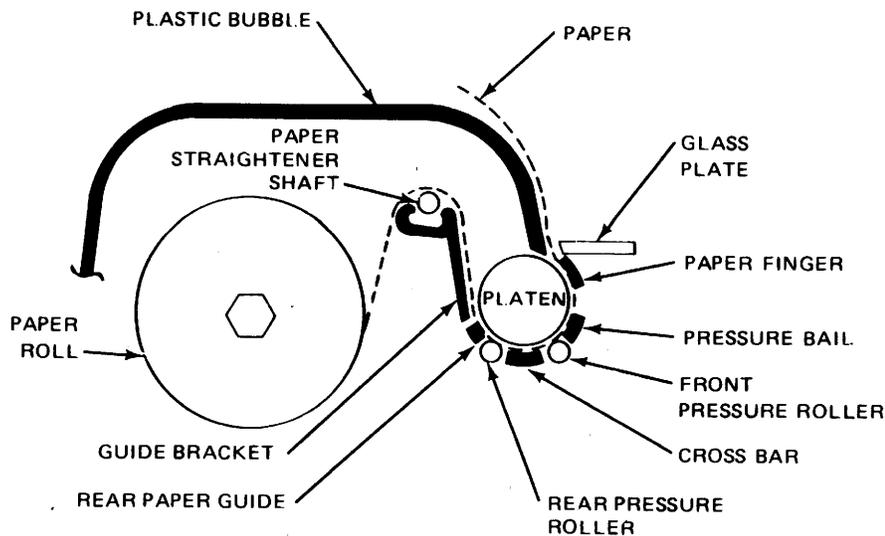

Figure 6-45. Paper Routing (Left View).
6-47. Printer Paper Roll Removal and Replacement. To replace the paper roll, see figure 6-45, and proceed as follows:
g. Prepare a smooth leading edge of paper, and route paper (see figure 6-45).